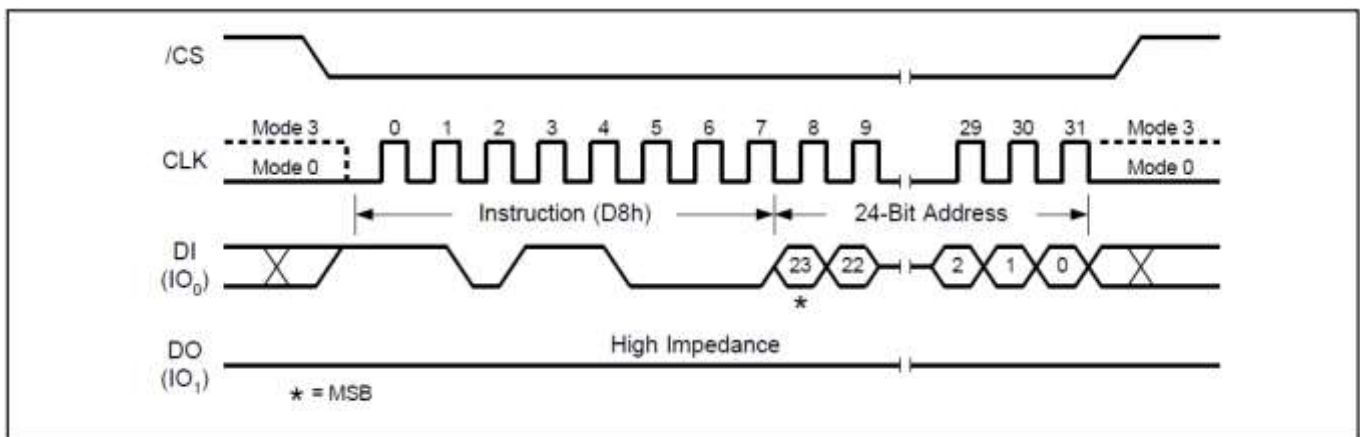

Figure18. 64KB Block Erase Sequence Diagram
The Chip Erase command sequence: CS# goes low → sending Chip Erase command → CS# goes high. The command sequence is shown in Figure18. CS# must be driven high after the eighth bit of the command code has been latched in; otherwise the Chip Erase command is not executed. As soon as CS# is driven high, the self-timed Chip Erase cycle (whose duration is T_{ce}) is initiated. While the Chip Erase cycle is in progress, the Status Register may be read to check the value of the Write in Progress (BUSY) bit. The Write in Progress (BUSY) bit is 1 during the self-timed Chip Erase cycle, and is 0 when it is completed. At some unspecified time before the cycle is completed, the Write Enable Latch (WEL) bit is reset. The Chip Erase (CE) command is executed, if the Block Protect (BP2, BP1, and BP0) bits are 0 and CMP=0 or the Block Protect (BP2, BP1, and BP0) bits are 1 and CMP=1.